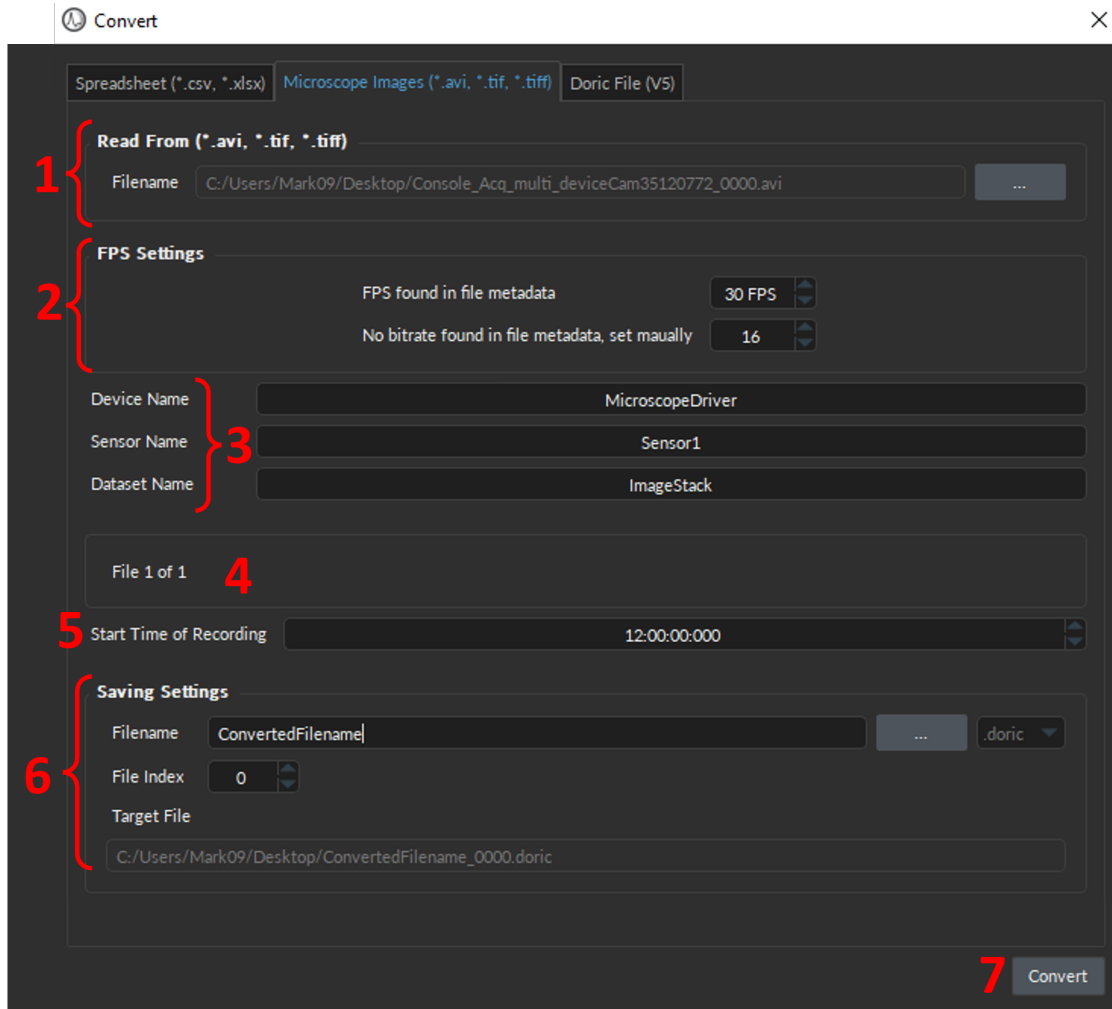
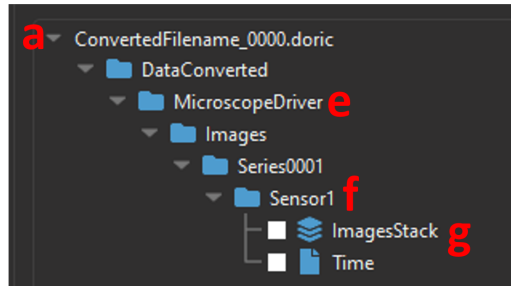
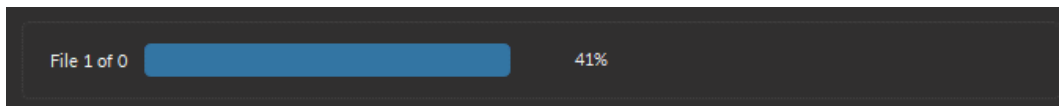

Figure 4.11: Convert Window, Microscope Images Tab
Figure 4.12: *Converted Microscope File Structure*
Figure 4.13: *Loading Bar*
1. The **Read From** section (Fig. 4.11, 1) specifies the Microscope Image file that will be converted.
- a) The **Filename** displays the computer path and filename of the data file that will be converted. The **Filename** is automatically generated once the file is selected (Fig. 4.12, a).
2. The **FPS Settings** (Fig. 4.11, 2) contains the following parameters:
3. The **Structure Settings** (Fig. 4.11, 3) sets the name of the nested folders containing the converted data, recapitulating the file structure of v6 .doric files. The names of the following three layers (Fig. 4.12) must be specified:
- e) The **Device Name** specifies the device type used to collect the data, as in Fig. 4.12, e.
- f) The **Sensor Name** specifies the type of sensor that was used to collect the data, such as red or green CMSO sensor, as in Fig. 4.12, f.
- g) The **Dataset Name** specifies the type of data that was collected, as in Fig. 4.12, g.
- 4. The **Loading bar** (Fig. 4.11, 4) appears when users selected the **Convert** button at the bottom of the window and indicates the progress of the file conversion (Fig. 4.13).
- 5. The **Start Time of Recording** (Fig. 4.11, 5) specifies the absolute time of the day as hh:mm:ss:zzz when the recording was initiated and can be used to align the data properly.
- 6. The **Saving Settings** (Fig. 4.11, 6) specifies: